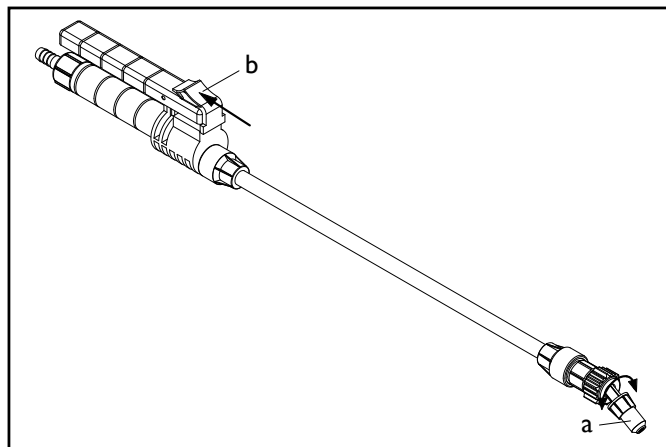

Figure 6: Spray gun
6. The spray gun's liquid flow can be adjusted by turning the spray tip (a) at the end of the spray gun wand. The spray gun's trigger can also be locked in the "on" position by sliding the plastic tab (b) on the top of the trigger towards yourself (Figure 6).